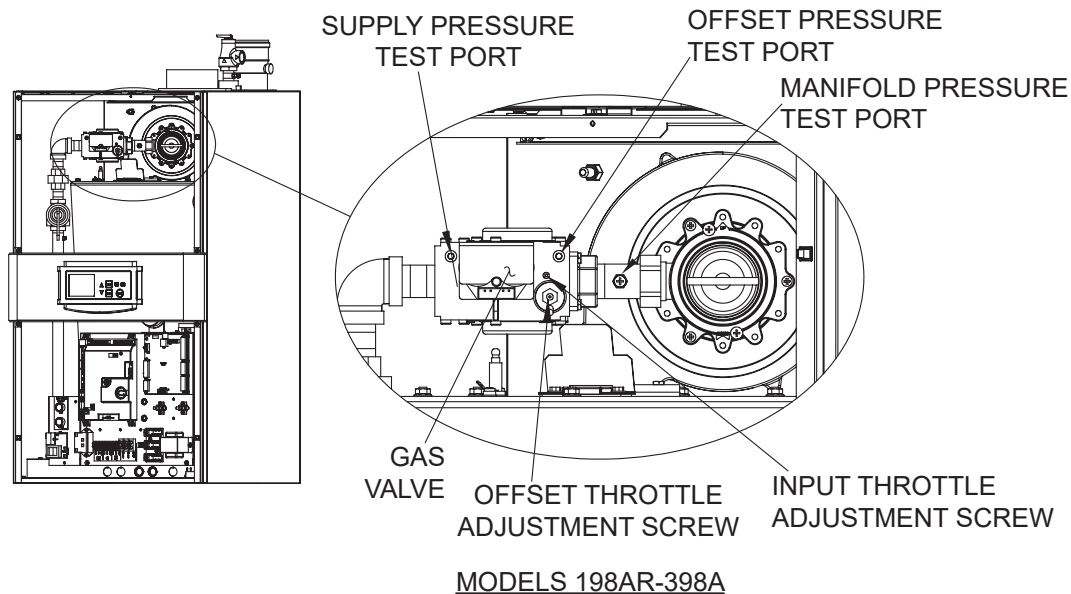

Figure 51. Gas Pressure Measurement Locations
2. Attach a 24" scale manometer to the supply pressure test port on the gas valve to the heater. See Figure 51.
3. Attach a 12" scale manometer to the manifold pressure tap. See Figure 51.